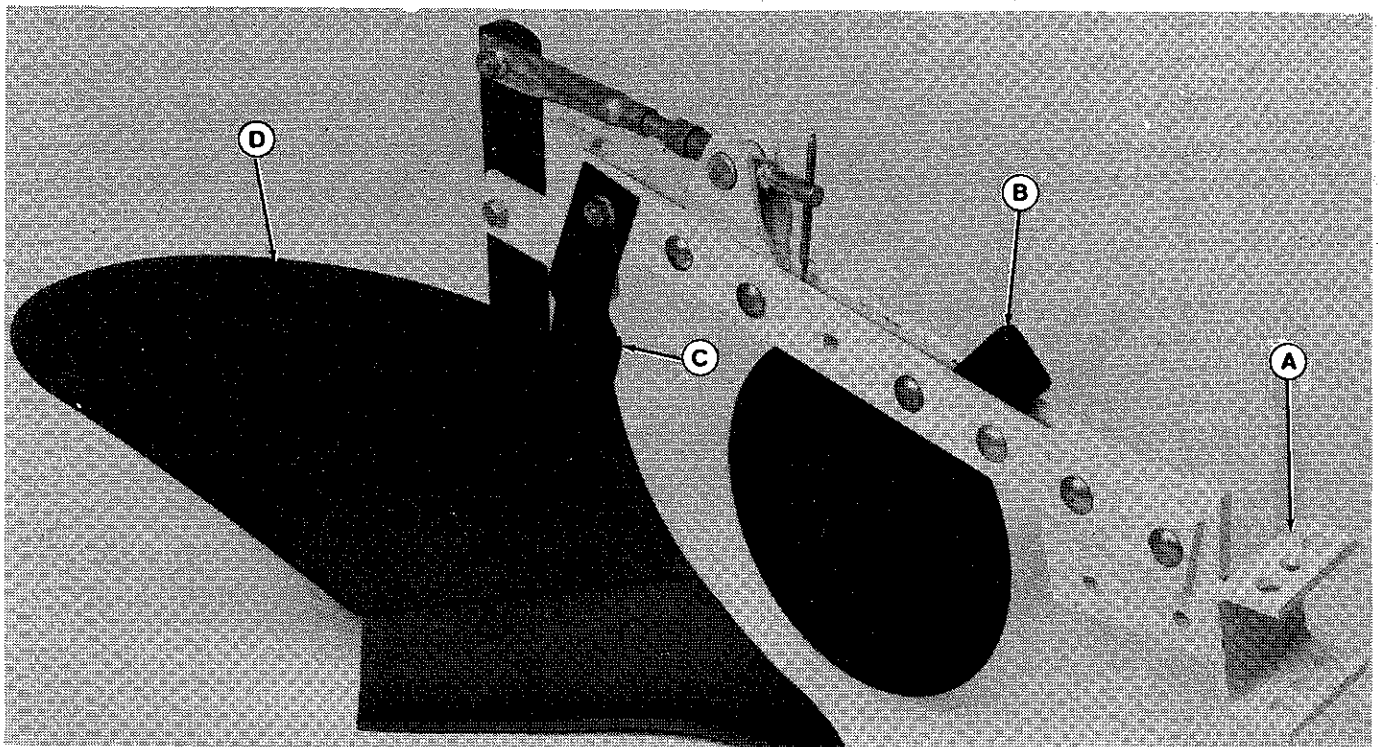

Figure 4. Plow
3. Use 1/2-13 x 2" carriage bolts, 1/2" lockwashers and 1/2-13" flange nuts to attach the plow, coultter blade and deflector blade (C, figure 4) to the tool bar as shown in figure 4, but do not tighten hardware. Install the yoke in the tool bar AS SHOWN - the yoke is also specially stamped "UP - PLOW ONLY" for ease of identification.